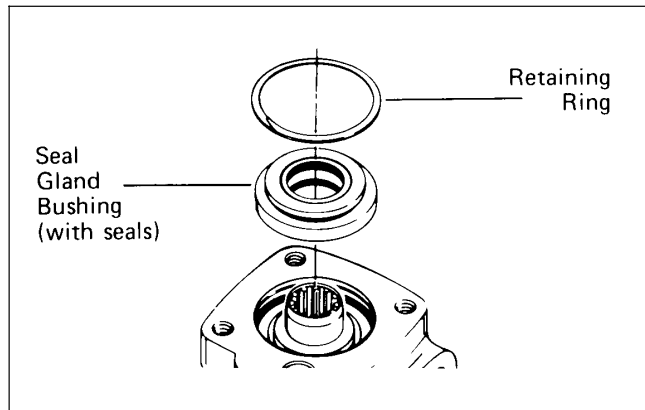

Figure 59
17. Install retaining ring (see Fig. 59 - 60) in housing. After installing ring, tap on ring end or pry with screwdriver around entire circumference of ring to properly seat ring in groove.